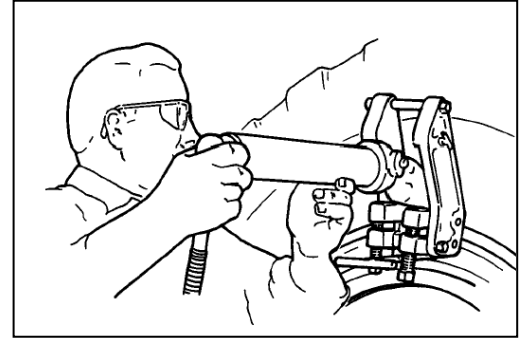

Figure 3
3. With spade tip down and cylinder in retracted position, insert spade and cylinder assembly between open sides of frame. Place spade tip between tire bead and rim flange. See Figure 3.